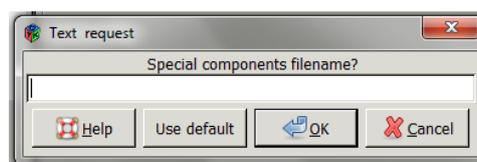

Figure 6
Step 6: This special component file then has to be named so that it can be used later in the simulations, this can be named anything you want. Once you have named the file, click >ok (figure 6)